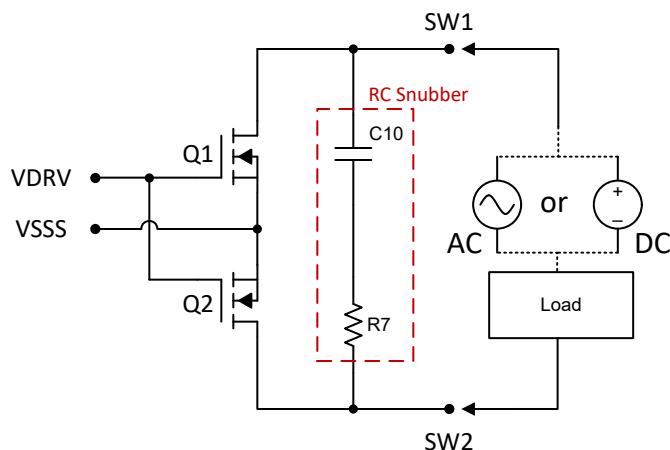

Figure 4-1. AC/DC Load
- Figure 4-1 shows an application using two back-to-back common source MOSFETs. By connecting the load between terminals SW1-SW2, the user can load the EVM with an AC or a DC load. By using two back-to-back FETs, the body diodes are able to stand off both positive and negative voltages. In addition, an RC snubber can be added for damping the switching oscillations in presence of a highly inductive load.